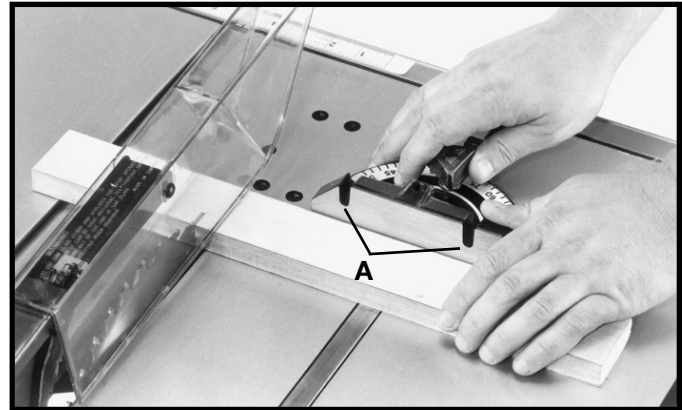

Fig. 49
This miter gage is equipped with individually adjustable index stops at 90 degrees and 45 degrees right and left. Adjustment to the index stops can be made by loosening lock nuts (B) Fig. 49, and tightening or loosening the three adjusting screws (C) until they contact the other end of stop pin (D) when the miter gage is at 90 and 45 degrees to the saw blade. Then, tighten lock nuts (B).
Cross-cutting requires the use of the miter gage to position and guide the work. Place the work against the miter gage and advance both the gage and work toward the saw blade, as shown in Fig. 49. The miter gage may be used in either table slot. When bevel cutting (blade tilted), use the table groove that does not cause interference of your hand or miter gage with the saw blade guard.
For added safety and convenience the miter gage can be fitted with an auxiliary wood-facing. This auxiliary wood-facing can be fastened to the front of the miter gage by using two wood screws through the slots (A) Fig. 49, provided in the miter gage body and into the wood-facing.